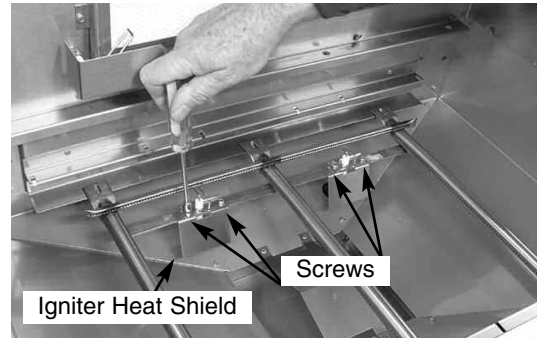

Fig 3
3. Remove the two screws holding each igniter in place. (See Fig. 3)
20. Reattach the igniters and their heat shields, removed in Step Four (4), to the burners. (See Fig. 3, on page 2)